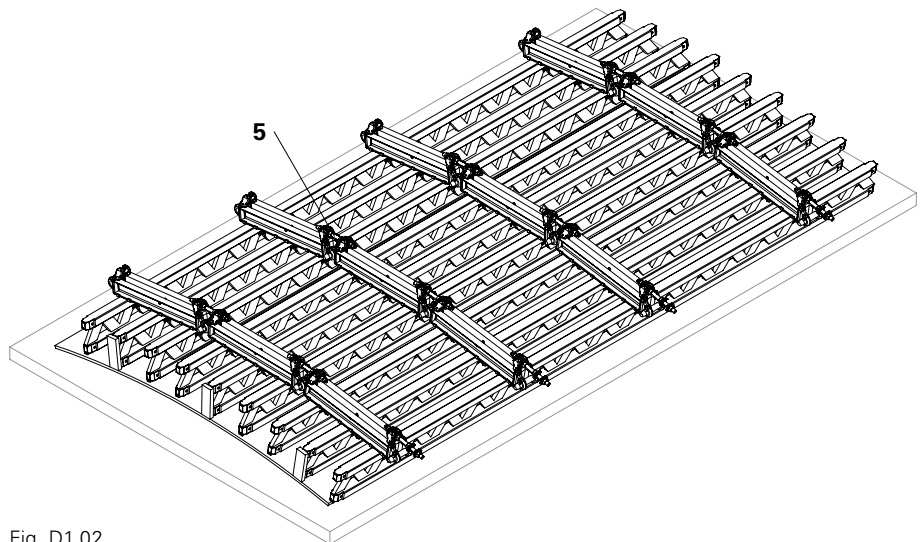

Fig. D1.02
3. Dismantle push-pull props, ladders, working and concreting scaffold. (Fig. D1.02)